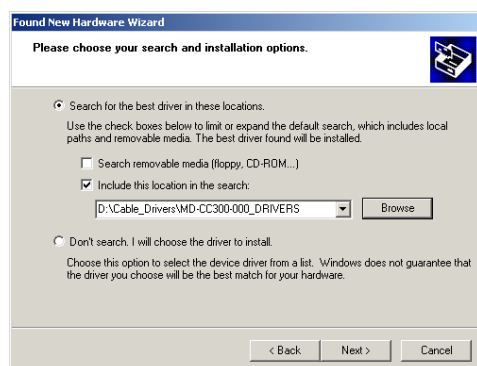

Figure A.6: Hardware Update Wizard Screen 3
- (c) Click Next (Figure A.6).